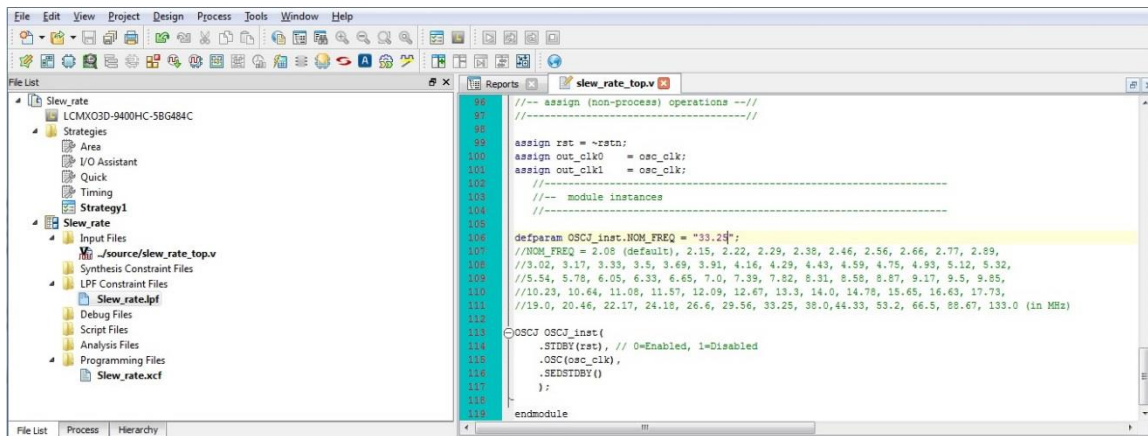

Figure 4.2. Open the Slew Rate Control Demo Project
3. Double-click **slew_rate_top.v** under **File List**. **slew_rate_top.v** is opened as shown in Figure 4.2. Check the default output clock frequency setting for **OSCJ_inst.NOM_FREQ** is **33.25** MHz for the MachXO3D internal Oscillator **OSCJ**.
1. In the Diamond main interface, edit **slew_rate_top.v** by changing the output frequency to 133 MHz. To do this, set **defparam OSCJ_inst.NOM_FREQ = "133.0"** (Figure 4.2).